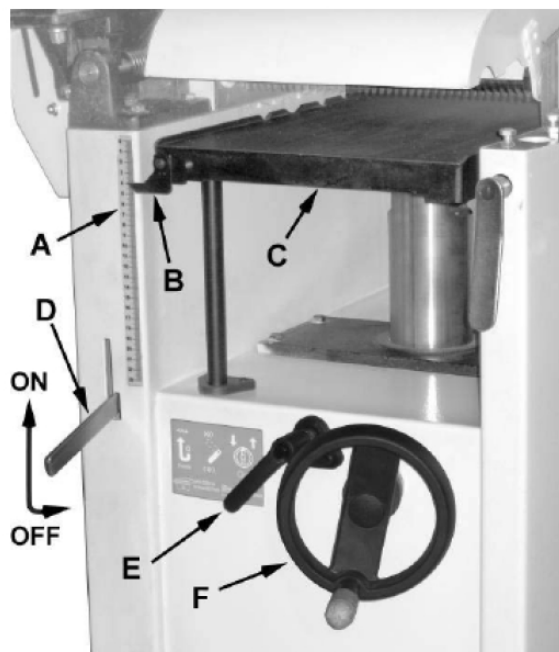

Fig. 8: Operating elements
Placing the planer power feed handle (Pos. D, Fig. 8) in the up position turns the planer power feed on (see arrow). Placing the handle in the down position turns the power feed off.
Turn the table lock (Pos. E, Fig. 8) clockwise to lock the height adjustment handwheel (Pos. F, Fig. 8) and secure the planer table (Pos. C, Fig. 8) in its selected position.
Turn the table lock (Pos. E, Fig. 8) counterclockwise to release and permit table adjustment.
Step 1: Unlock the table lock (E).
Step 2: Rotate the height adjustment handwheel (Pos. F, Fig. 8) clockwise to raise the planer table (Pos. C, Fig. 8), counterclockwise to lower.
Step 3: Lock the table lock (Pos. E, Fig. 8). Each revolution of the handwheel (Pos. F, Fig. 8) results in a 4mm up or down movement of the table (Pos. C, Fig. 8).
A scale on the handwheel column indicates the amount of handwheel rotation. A pointer (Pos. B, Fig. 8) indicates the table position relative to the cutter head on the scale (A) located on the side of the cabinet.